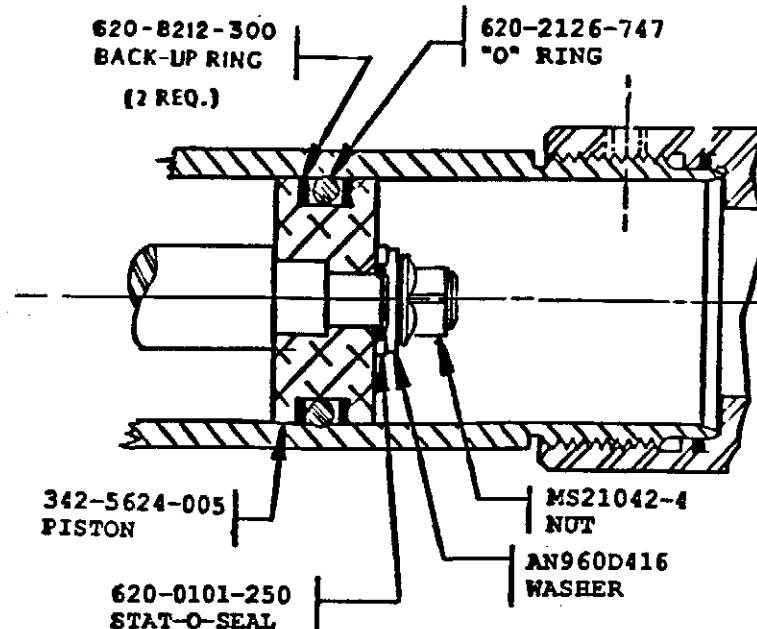

Figure 3: Original-Style Piston Assembly
1) Original-Style Piston Assembly: The most common style of piston is style in Figure 3. This style piston (1/2" thick) does not have an internal "O" ring and has an external "O" ring groove sized for an "O" ring plus two back-up rings.
Install the "O" ring (P/N 620-2126-747) and two back-up rings (P/N 620-8212-300) back-up rings onto the piston, as shown in Figure 3, making sure that the concave sides of the back-up rings are toward the "O" ring.